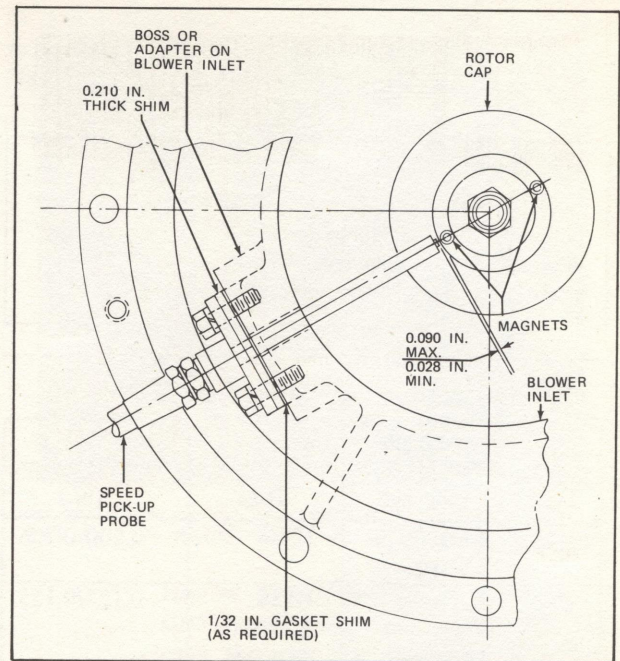

FIG. IX-108. AIR INLET VIEW OF TURBOCHARGER.
4. If so equipped, install the CHEC-excitation speed pick-up probe. Check gap between end of probe and outside diameter of rotor cap, which must be 0.028-0.090 in. (0,711-2,286 mm). See Fig. IX-108.